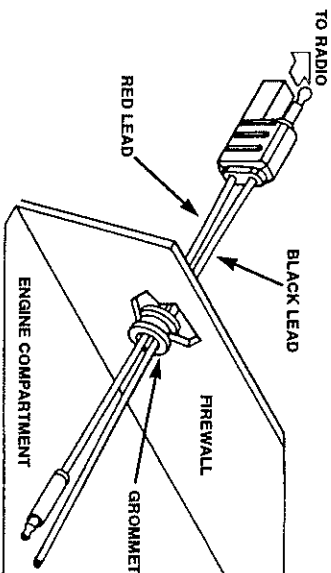

Figure 1. Power Cable Routing into Engine Compartment
3. From inside the vehicle, feed the red and black leads (without lugs attached) through the access hole and into the engine compartment. (See Figure 1.)